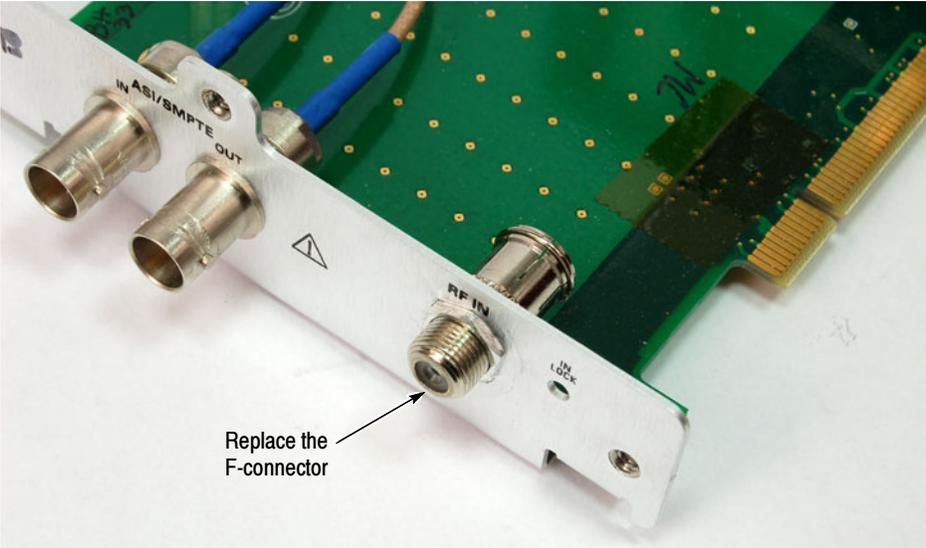

Figure 6: Replacing the F-connector
8. Use a 7/16 inch wrench to remove the retaining nut from the F-connector (see Figure 6), and then remove the F-connector from the rear panel.